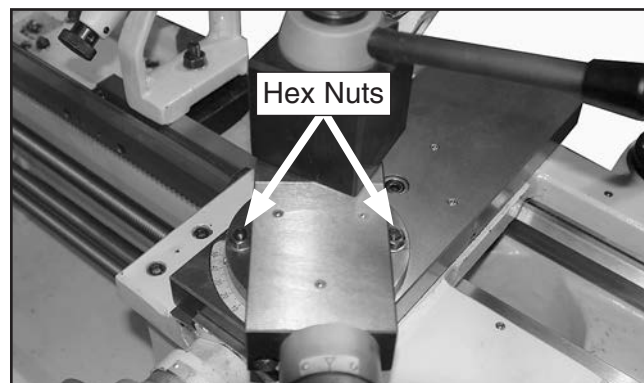

Figure 3. Hex nuts that secure the compound rest.
2. Remove the back splash from the rear of the lathe by removing the (4) Phillips head screws and flat washers that secure it.
3. Remove the compound rest from the cross slide by removing the (2) hex nuts shown in **Figure 3**.